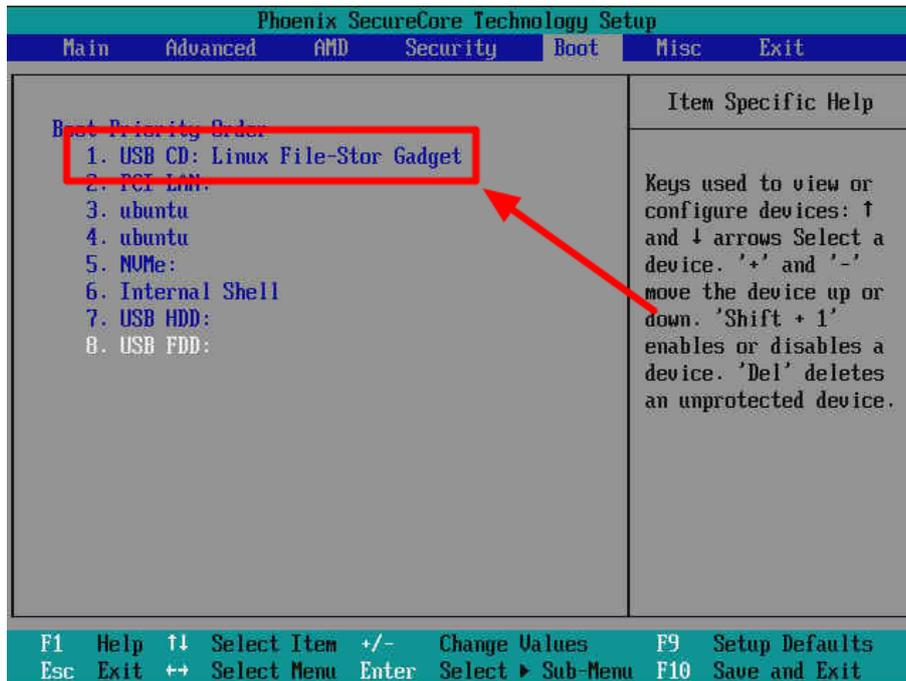

Figure 33: Boot Priority menu - virtual media option
2. Accessing the BIOS/UEFI menu, and selecting the “CD” option in the Boot menu, as shown in Figure 33. When the virtual media is active, the text “Linux File-Stor Gadget” is shown together with the CD option.